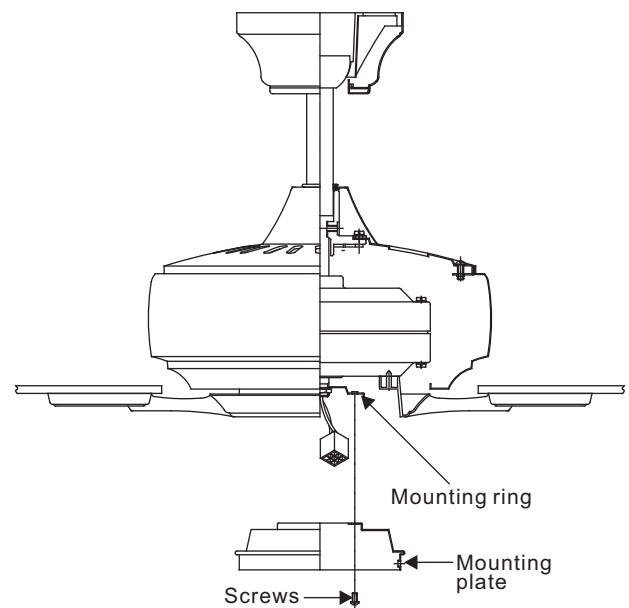

Figure 18
**Step 2.** Place the key holes on the mounting plate over the 2 screws previously loosened from the mounting ring, turn mounting plate until it locks in place at the narrow section of the key holes. Secure by tightening the 2 screws previously loosened and the one previously removed. (Fig. 18)